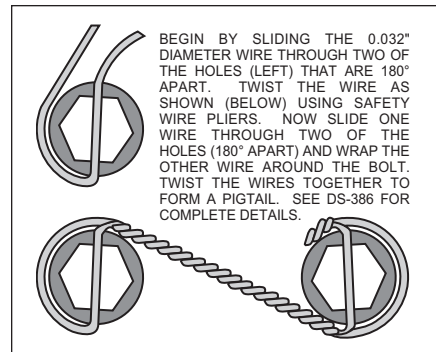
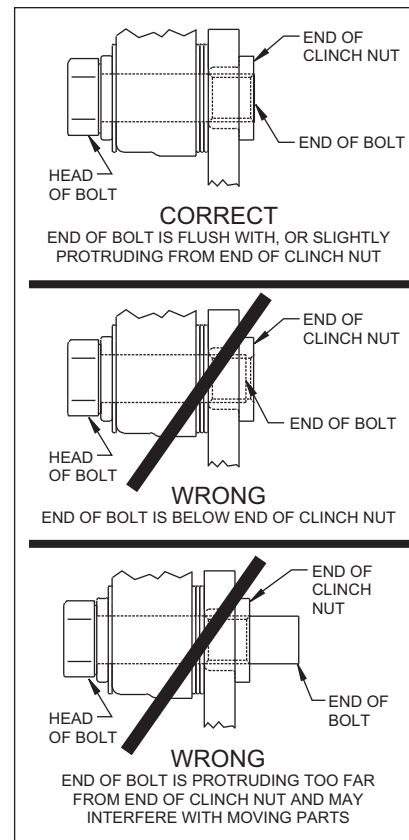

Figure 4. Safety Wire Diagram
Figure 5. Clinch Nut Engagement Diagram
- The rotor (3) has two sides. A flat side and an inset side. Bolt hat (2) to flat side of rotor (3) by sliding one of the T-nut's (4) into the "T" slot on the hat and attaching the rotor using a lock washer (5) and bolt (6) through the mounting holes in the rotor (3) into the corresponding hole in the T-nut (4). Finger tighten only at this time. Repeat this procedure for the remaining T-nut's, lock washers and bolts. Insert the T-nut tool (supplied in the bolt kit) into the slot between the T-nut (4) and hat (2) up to the flat spot on the T-nut tool shaft. Torque bolt (6) to 198 **in-lb**. Remove T-nut tool and insert into T-nut slot on opposite side of hat and torque bolt (6) to 198 **in-lb**. Repeat until all T-nuts (4) have been tightened and torqued to proper specification. **NOTE:** Reference Wilwood data sheet DS-440 (supplied with this document) for additional information if necessary. Safety wire bolts (6) using standard 0.032 inch diameter stainless steel safety wire as shown in Figure 4. Please refer to Wilwood's data sheet DS-386 (available at www.wilwood.com/Pdf/DataSheets/ds386.pdf) for complete safety wire installation instructions.
- Align the correct hole pattern in the hat (2) with the stud pattern on the axle flange. **NOTE:** Some OEM and after market axles come with stud sizes larger than 0.50" diameter. Verify stud size and have a qualified machine shop drill the hats to the correct size. Slide the hat/rotor assembly (2 and 3) over the wheel studs and against the axle flange face.
- NOTE:** Please reference the caution statement at the beginning of the assembly instructions. WITH THE BLEED SCREWS POINTING UP, mount the caliper (7) over the rotor (3) and onto the caliper mounting bracket (1) using washers (8) and mounting bolts (9). View the rotor through the top opening of the caliper. The rotor should be aligned in the center of the caliper. If not, adjust the caliper by using 0.032 inch shims (10) by placing them between the caliper mounting bracket (1) and the caliper (7). Add as many shim washers (10) as necessary to achieve the correct alignment. **NOTE:** The end of the bolt must be flush with or slightly protruding from the head of the clinch nut. See Figure 5. Place spare shims (10) between washer and caliper mounting ear to achieve the proper mounting fastener configuration. Always use the same amount of shims on both the top and bottom caliper mounting bolts (9). Apply red *Loctite*® 271 to the mounting bolt threads (9), torque to 30 ft-lb. Safety wire the caliper mounting bolts (9).
- Position the Wilwood disc brake pads (11) into the caliper (7) and fasten with cotter pin (12). Steel backing plate side of brake pad should face the caliper pistons.